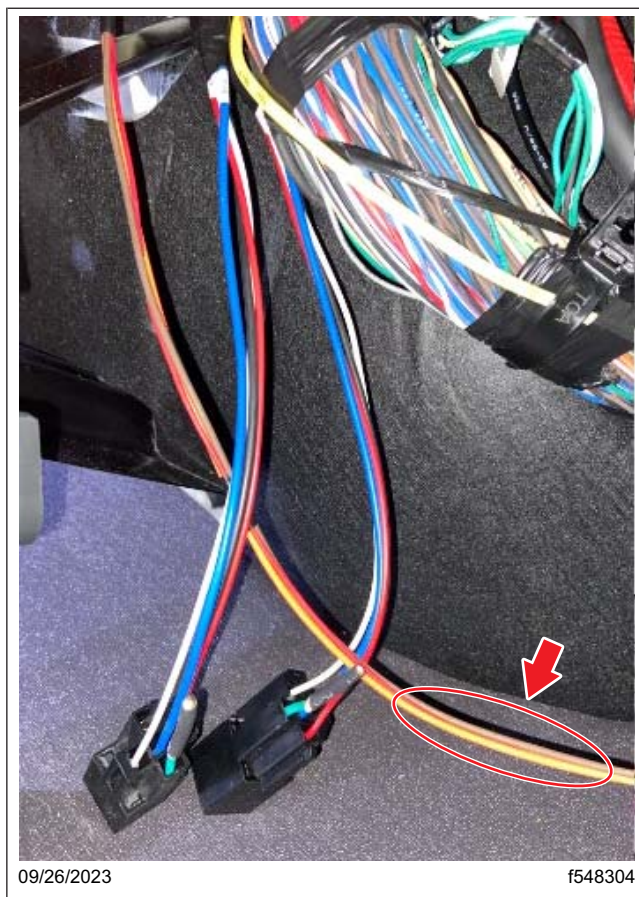

Fig. 36, Routing the Wires
12.3 Leave the relays on the passenger side of the lower-center dash cover for later tie off and continue routing the orange (or pink), red, and brown wires towards the VPDM. See Fig. 36.